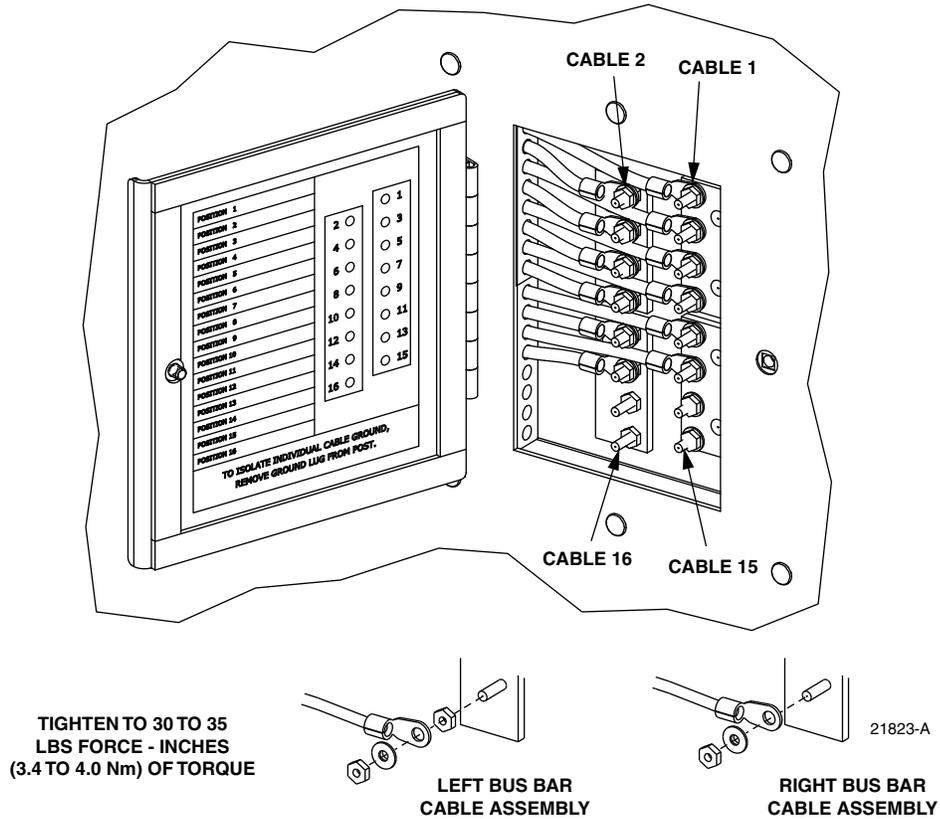

Figure 42. Grounding Block Access Cover
1. Locate the small hinged access cover on the side of the cabinet as shown in Figure 42.